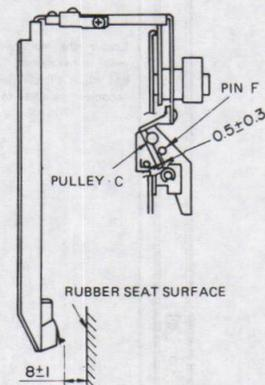

Fig. 2
- 2) With the tone arm up, unlock and turn the cam pin E till the tip of stylus is 8 ± 1 mm above the turntable. In this case, the main body cover is open. (See Fig. 2)